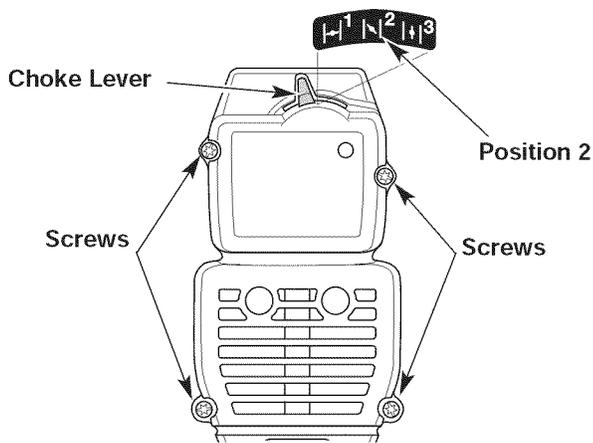

Fig. 13
**NOTE:** The start control must be in Position 2 (Fig. 13) to remove the air filter/ muffler cover.
2. Remove the four (4) screws securing the air filter/muffler cover (Fig. 13). Use a flat blade or # T20 Torx bit screwdriver.
**NOTE:** The choke lever must be in Position 2 (Fig. 13) to remove the air filter/ muffler cover.
2. Insert the four (4) screws into the holes in the air filter/muffler cover (Fig. 13) and tighten. Use a flat blade or # T20 Torx bit screwdriver. Do not over tighten. Do not force.